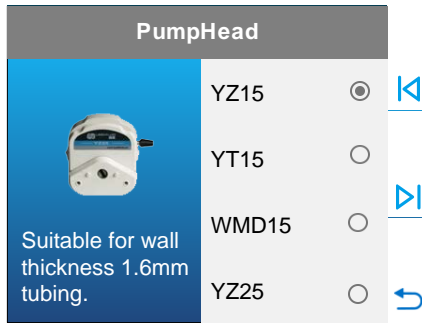

Figure 24. Pump Head Select
- **Pump Head** - Choose the model of the installed pump head, use   view the menu, details as figure 24